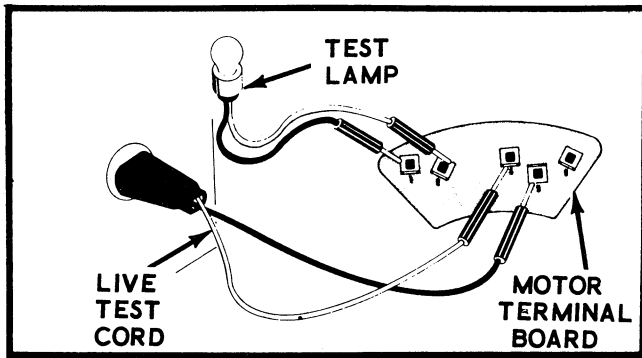

Figure 28C
6. With the motor running, remove the test probes of the test light from terminals Nos. 4 and 6, and apply them to terminals Nos. 1 and 2, *Figure 28C*.